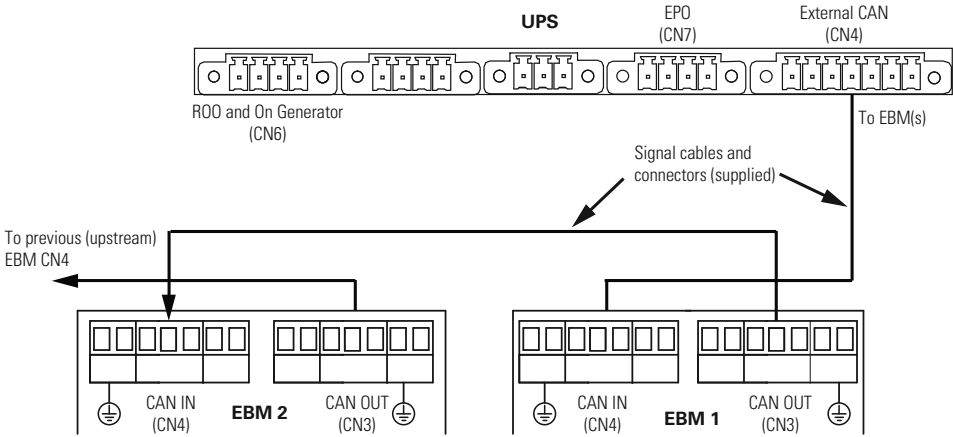

Figure 42. UPS Input Control Signal Wiring (for External Controls)
8. If additional battery cabinets are to be connected to the first, in a daisy-chain configuration, connect each EBM with signal cables from CN3 to CN4 (see Figure 42).